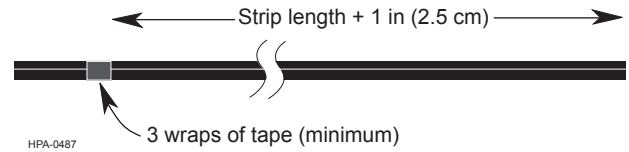

Figure 2
**Step 3:** Mark the cable at the appropriate distance, plus 1 in (2.5 cm), from the cable end with at least three wraps of tape (Figure 2). **These wraps will permanently remain on the cable.**